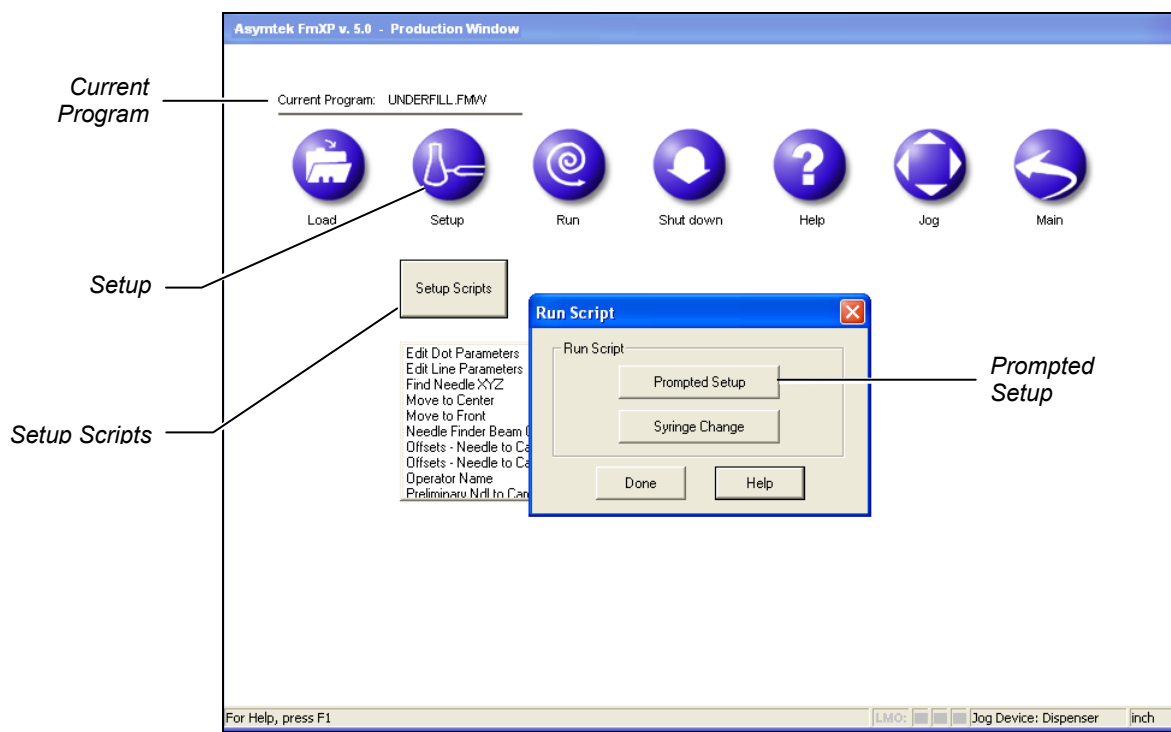

Figure 3-16 Production Window – Setup Scripts
3. In the Production Window, click on the **Setup** button and then click on **Setup Scripts** and then on **Prompted Setup** (Figure 3-16).